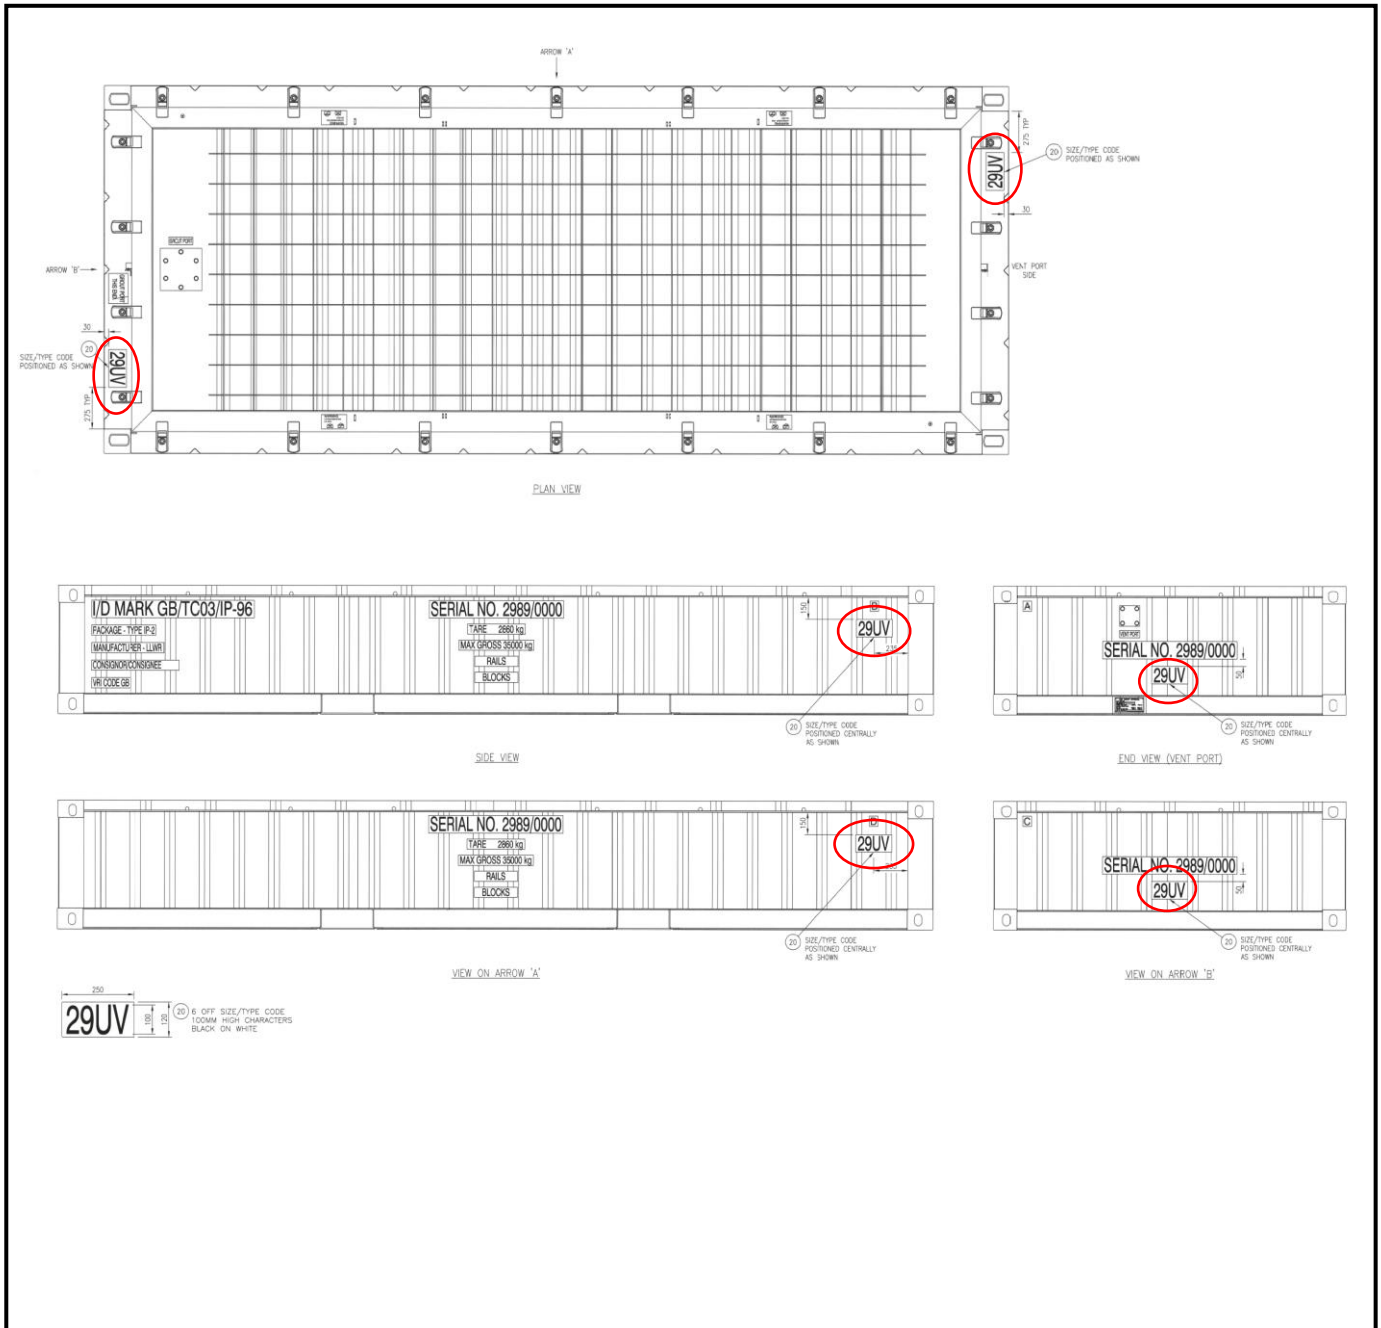
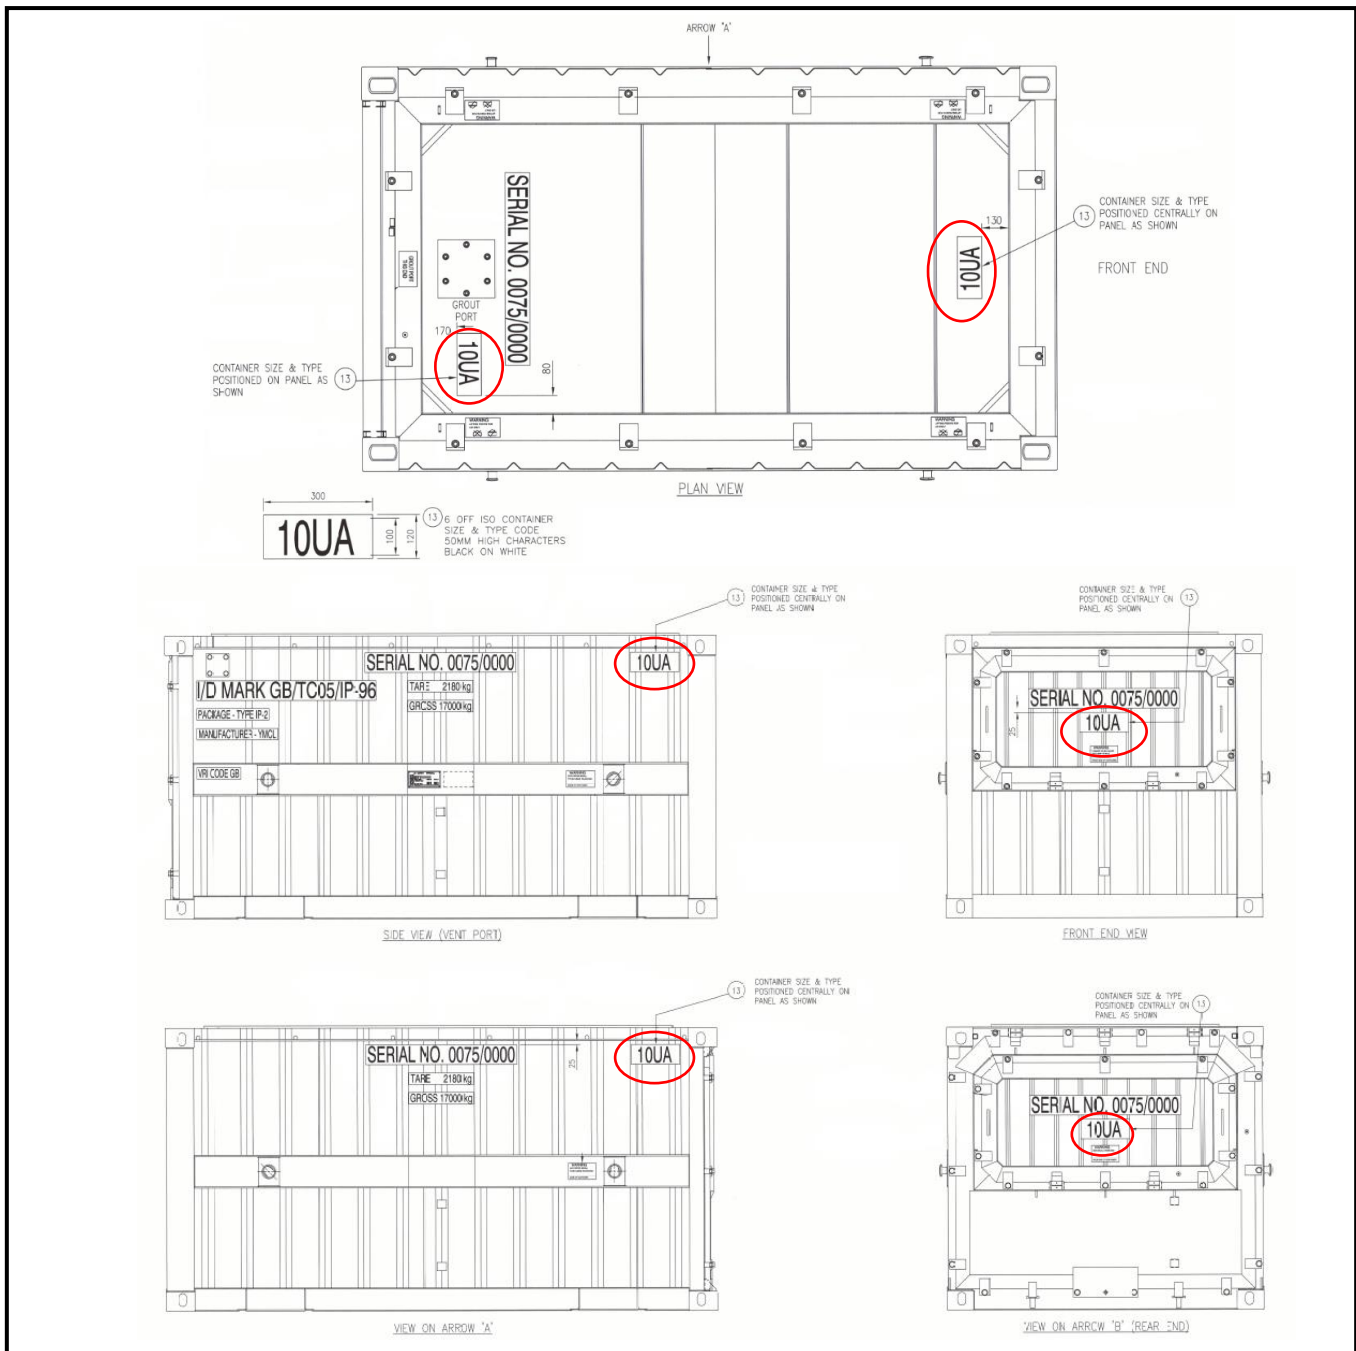

Figure 3: Correct positioning of the reduced stacking decals on the TC03
Figure 4: Correct positioning of reduced stacking decals on the TC05
5. Identify the 6 target locations on the package to which the decals are to be affixed (see Figure 3 for the TC03 and Figure 4 for the TC05 of Appendix 1, of this communications).